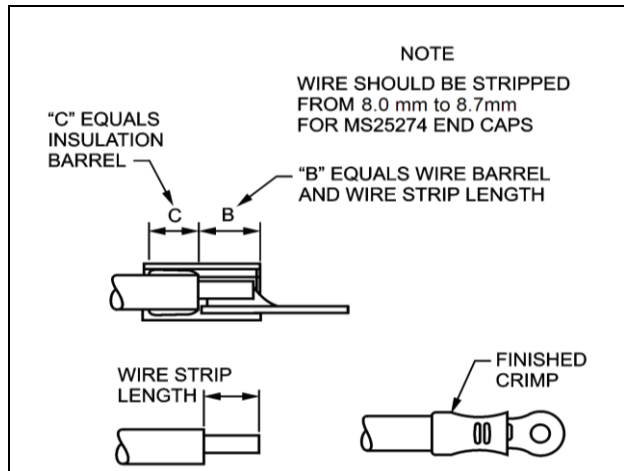

Figure 6-4 Proper Insertion of Stripped Wire in Insulated Terminal Lug for Crimping
- e. Insert stripped wire into terminal lug barrel until wire insulation butts flush against near end of wire barrel. (See Figure 6-2 or Figure 6-4.)